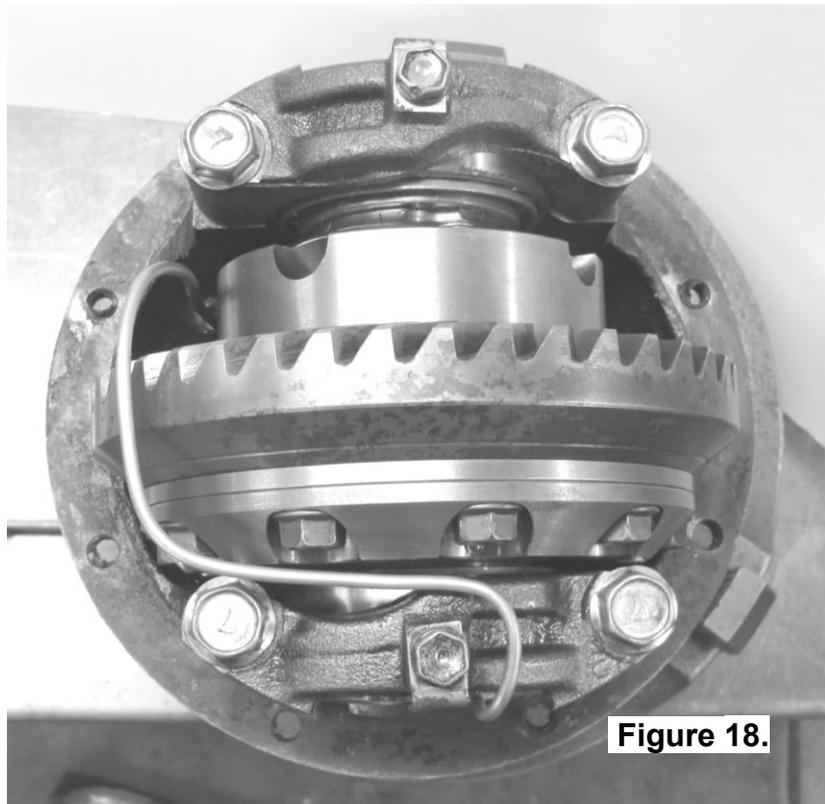

Figure 18.
- With the seal housing tube now firmly secured into the bulkhead fitting, bend the tube so that it closely follows the profile of the differential. (Figs. 18., 19. & 20.)